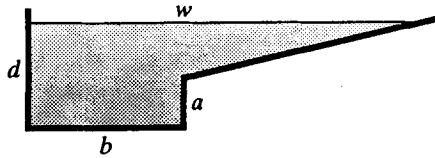

Figure X10.3.6
10.10 Refer to Fig. X10.3.6. Find the flow rate at water depths of 1, 2.5, 4, 5.5, and 7 ft if  $n = 0.025$  and  $S = 0.0020$ . The dimensions are as follows:  $a = 4$  ft,  $b = 5$  ft,  $d = 7$  ft, and  $w = 35$  ft.